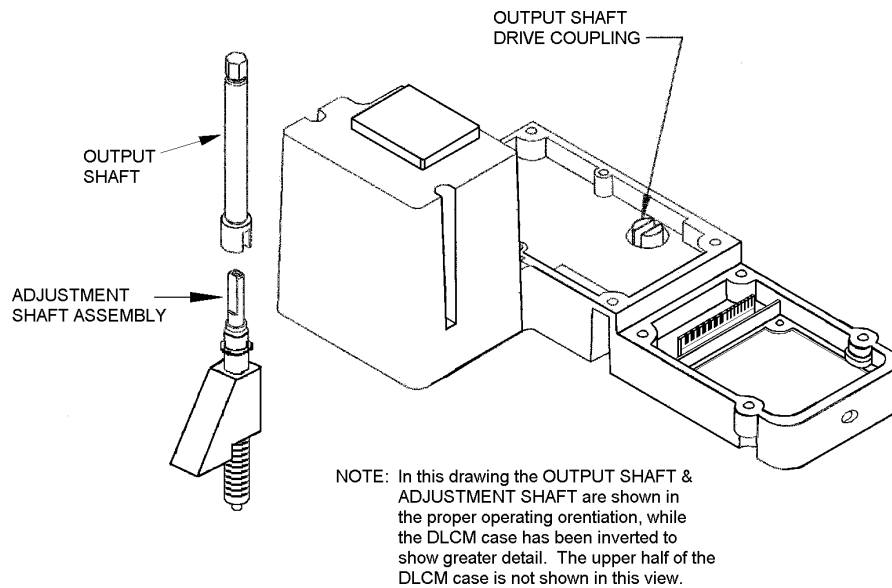

Figure 36 – DLC/Eccentric Mating Components
12. Note the position of the PULSAR adjustment shaft 'flats'. They mate with a slot in the DLC drive coupling of the output shaft. The output shaft is connected to the adjustment knob. Familiarize yourself with these mating components prior to installation (refer to **Figure 36**).